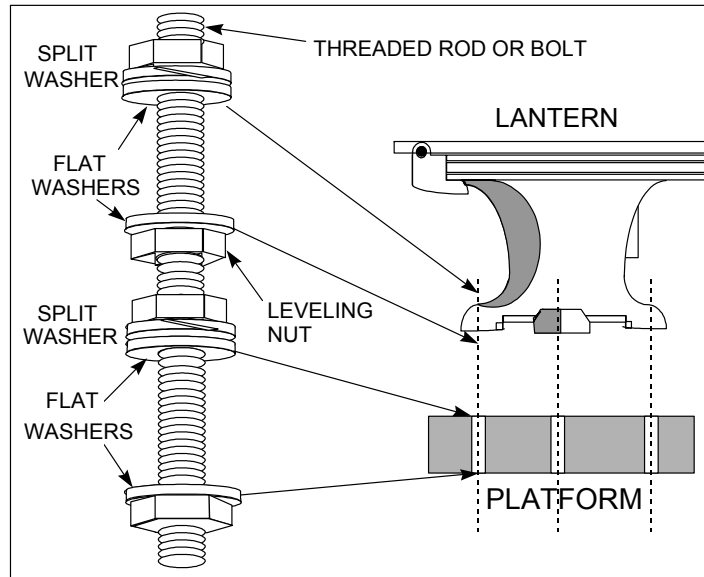

Figure 3-5
- a. Install three  $\frac{1}{2}$ " threaded rods or bolts on the platform as shown in Figure 3-5 (only three of the four holes in the base are used). Add the leveling nut and flat washer at this time.